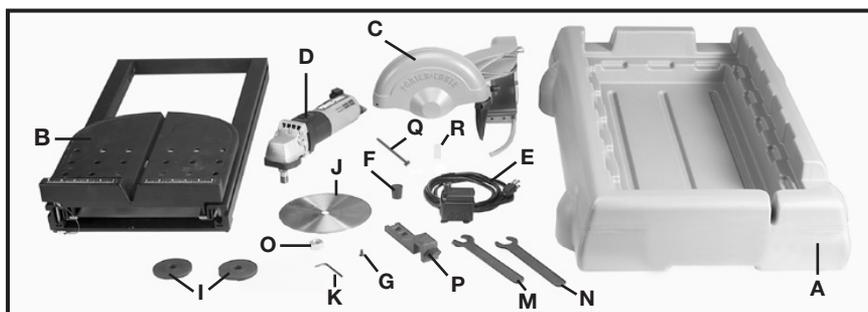
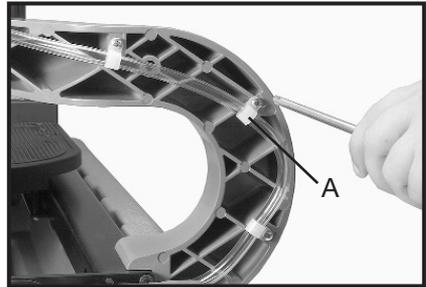
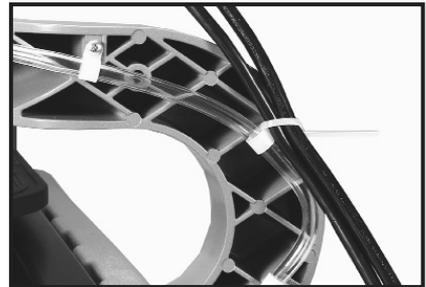
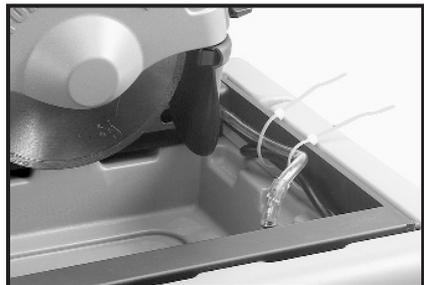

Fig. 1
Fig. 11B
Fig. 11C
Fig. 11D
4. Unassembled items are shown in Fig. 1, for identification and use in assembling the saw.
2. Insert the plug (F) Fig. 1, into the water tray (A) Fig. 1. The plug should be inserted into the top of the water tray as shown in Fig. 2.
3. Thread each screw (G) Fig. 1, through the holes in the saw arm to the holes in the motor.
2. Position the saw arm (C) Fig. 1, onto the cutting tray as shown in Fig. 7.
3. Insert 2 screws (G) Fig. 1, through the 2 holes on the inside of the cutting tray Fig. 8, and tighten securely.
4. Place the water pump (E) Fig. 1, into the bottom of the water tray Fig. 9.
5. Attach the water pump hose, from the saw, to the water pump with the hose adapter (R) Fig. 1, as shown in Fig. 9.
7. Loosen the water hose clamp (A) Fig. 11B, and insert cable tie (Q) Fig. 1, through the water hose clamp. Secure water pump cord and motor cord to saw arm with cable tie as shown in Fig. 11C. Tighten the water hose clamp (A) Fig. 11B.
8. Secure water pump hose and cord to the cutting tray frame with cable tie (Q) Fig. 1, as shown in Fig. 11D.
2. Place the inner flange (I) Fig. 1, onto the motor arbor as shown in Fig. 13
3. Place the blade (J) Fig. 1, onto the motor arbor. **NOTE:** Make sure the blade is placed on the arbor with the arrow on the blade facing counter-clockwise, as shown in Fig. 14.
4. Place the outer flange (I) Fig. 1, onto the motor as shown in Fig. 15.
5. Tighten the arbor nut (O) Fig. 1, onto the arbor Fig. 16 using the 2 wrenches provided (M,N) Fig. 1. **NOTE:** Wrench (M) Fig. 1, is used to hold the arbor in place while wrench (N) Fig. 1, is used to tighten the arbor nut onto the arbor.
7. Attach the rip guide (P) Fig. 1 to the cutting tray by loosening the locking knob and placing the rip guide onto the front of the cutting tray and tighten the locking knob Fig 17.